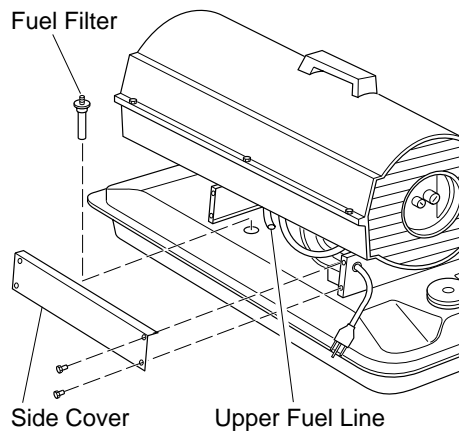

Figure 12 - Fuel Filter Removal 40,000 & 60,000 Btu/Hr Models
3. Remove 4 side cover screws with a 5/16" nut driver. Remove side cover (see Figures 12 and 13).
12. Replace side cover (see Figure 12 or 13, page 9).